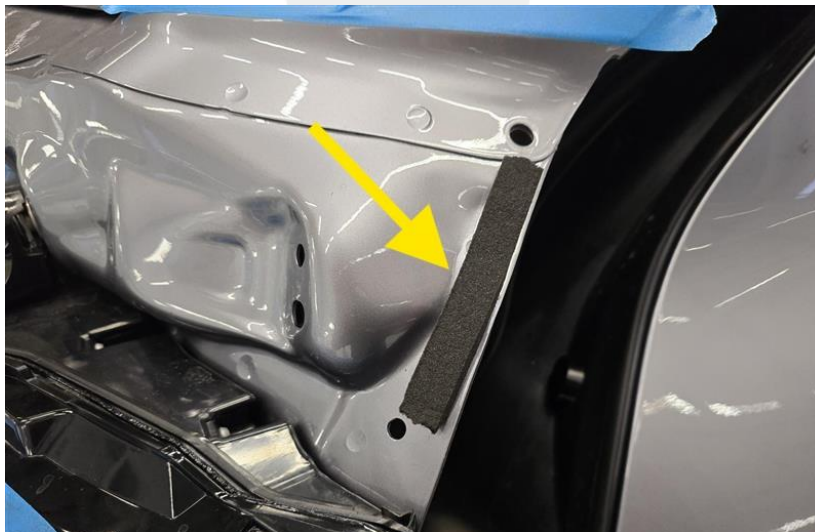

Figure 2 – RH shown, LH similar.
4. Apply the pieces of tape (x2) on the LH and RH edges of the liftgate, leaving a gap of 5mm from the edge of the liftgate (Figure 2).